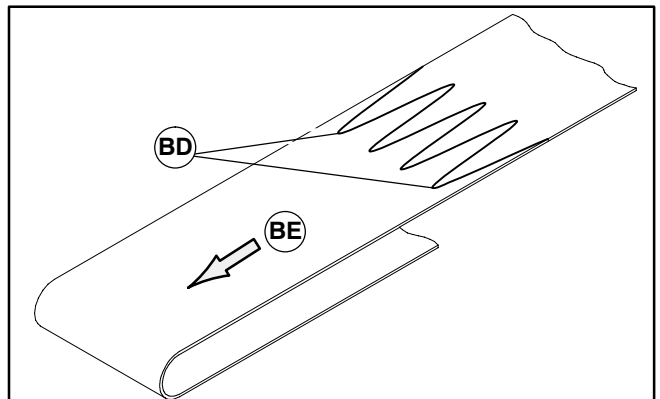
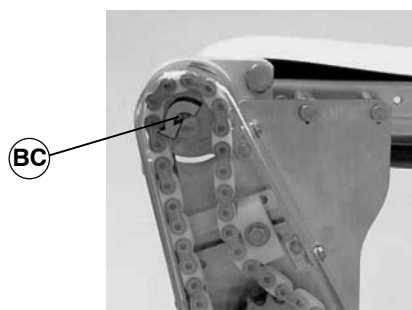

Figure 29
Figure 32
1. Orient conveyor belt so the splice leading fingers (BD of Figure 29) point in the direction of belt travel (BE).
IMPORTANT: On a flat belt conveyor, the wiper is installed on discharge end. Belt travel direction is identified by an arrow decal on the drive cover (BC of Figure 32).
1. Orient conveyor belt so that the splice leading fingers (BD of Figure 29) point in the direction of belt travel (BE) as identified by the label (BC of Figure 32).